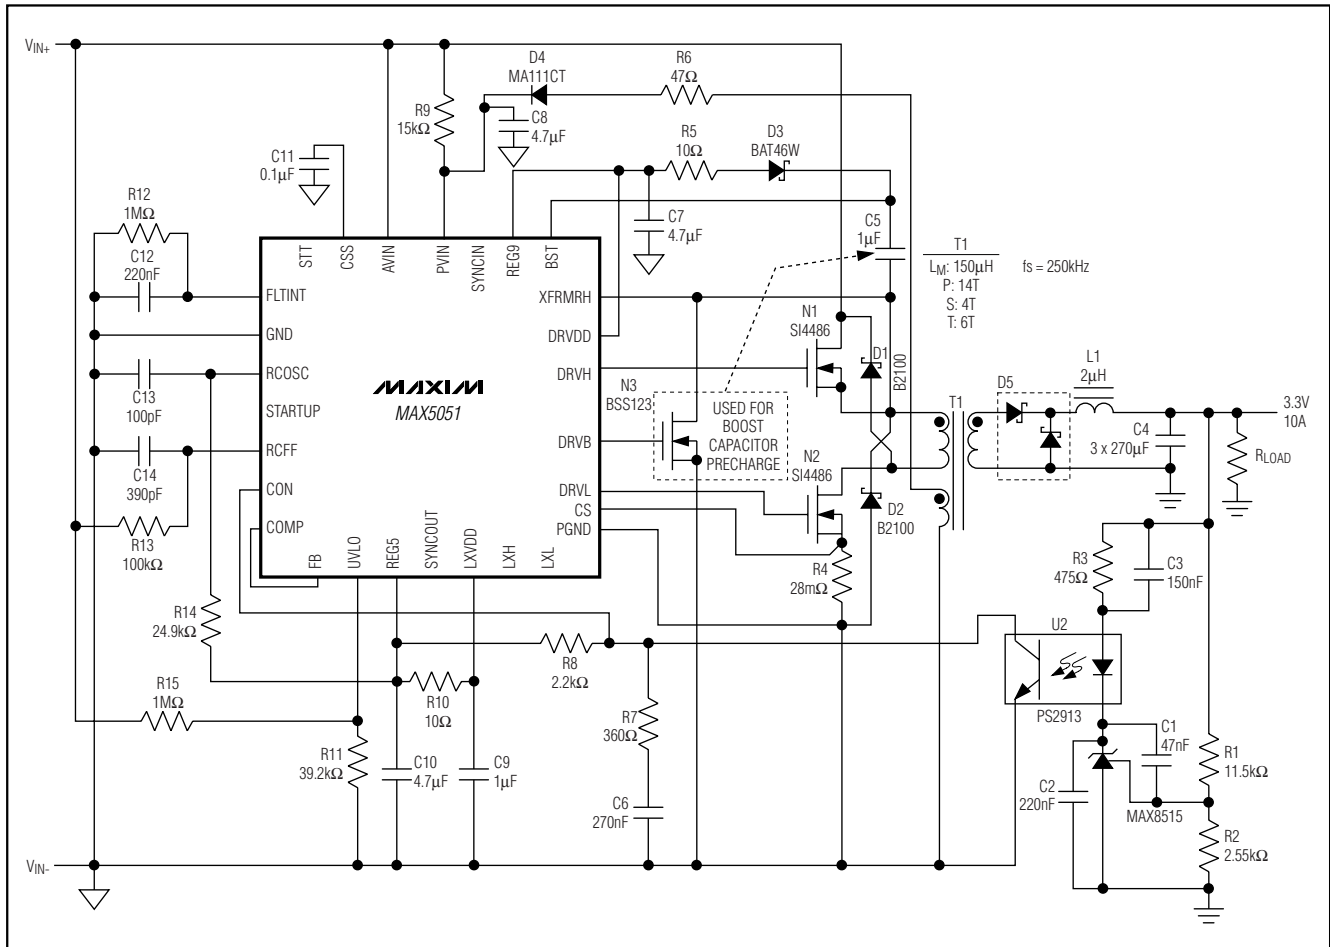

Figure 2. Typical Application Circuit
The two-switch power topology has the added benefit of recovering practically all magnetizing as well as the leakage energy stored in the parasitics of the isolation transformer. The lower clamped voltages on the primary power FETs allow for the use of low  $R_{DS(ON)}$  devices. Figure 2 shows the schematic diagram of a 48V input 3.3V/10A output power supply built around the MAX5051.
If the charge stored on the boost capacitor is not adequately replenished then the gate-driver lockout for the high-side MOSFET is triggered, stopping the high side from switching. The low side continues switching, eventually recharging the capacitor, at which point the high side starts switching again. To prevent this behavior, use the boost capacitor's cycle-by-cycle charging circuit to prevent unwanted shutdowns of the high side (Figure 2). Connect the gate of a small high-voltage FET (with the same voltage rating or higher as the main FETs) to the DRV B output of the MAX5051. Connect the drain of this FET to XFRMRH, and connect the source to the primary ground. DRV B will briefly (300ns) turn this FET ON every cycle after the main PWM clock terminates. This allows the boost capacitor to be replenished under all conditions, even when switching stops completely. A suitable FET for this is BSS123 or equivalent (100V, 170mA rated). The boost-capacitor charge
The error amplifier in the MAX5051 has an uncommitted inverting input (FB) and output (COMP). Use this amplifier when secondary isolation is not required. COMP can then be directly connected to CON (the input of the PWM comparator). The noninverting input of the error amplifier is connected to the soft-start generator and is also available externally at CSS. A capacitor connected to CSS is slewed linearly during initial startup with the 70µA internal current source (see Figure 2). This provides a linearly increasing reference to the noninverting input of the error amplifier forcing the output voltage also to slew proportionally. This method of soft-start is superior to other methods because the loop is always
After coming out of standby and before initiating the soft-start, the MAX5051 turns on the low-side FET to charge up the boost capacitor. A voltage detector has been incorporated in the high-side driver that prevents the high-side switch from turning on with insufficient voltage. It is also used to indicate when the boost capacitor has been charged. Once the capacitor is charged, soft-start commences. If the duty cycle is low, the magnetizing energy in the transformer may be insufficient to keep the bootstrap capacitor charged. DRVb (see Figure 2 dotted lines) has been provided to drive a small external FET connected between XFRMRH and PGND, and is pulsed every cycle to keep the capacitor charged.